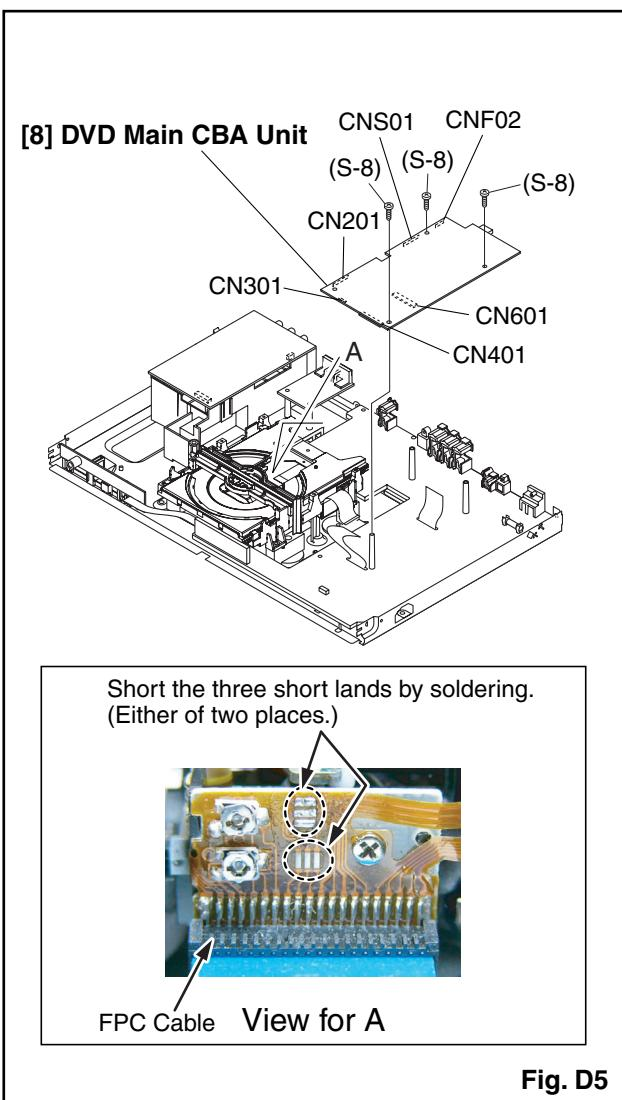

Fig. D5
- 1) Short the three short lands of FPC cable with solder before removing the FFC cable (CN201) from it. If you disconnect the FFC cable (CN201), the laser diode of pickup will be destroyed. (Fig. D5)
- 2) Disconnect Connectors (CN301), (CN401) and (CN601). Remove three screws (S-8) and lift the DVD Main CBA Unit. (Fig. D5)
3. **CAUTION 3:** When reassembling, confirm the FFC cable (CN201) is connected completely. Then remove the solder from the three short lands of FPC cable. (Fig. D5)